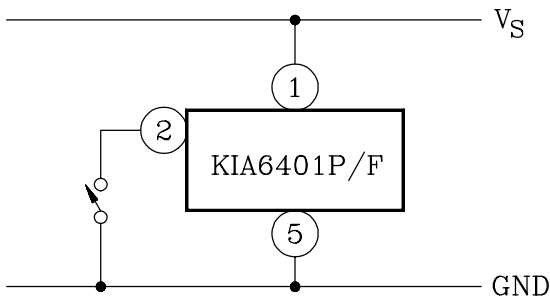

Fig. 1a
Usually PIN ② is used at an open state, but in the KIA6401P/F the TRIGGER IN terminal can prohibit oscillation and also can change the initiation supply voltage ( $V_{si}$ ). When the KIA6401P/F is oscillating ( $V_{sus} < V_s$ ), if PIN② is connected to GND as shown in Fig. 1a, the KIA6401P/F can stop oscillating. Further, the oscillation of the KIA6401P/F can be stopped by connecting PIN② to voltage  $V_I$  through the resistor  $R_I$  as shown in Fig. 1b.